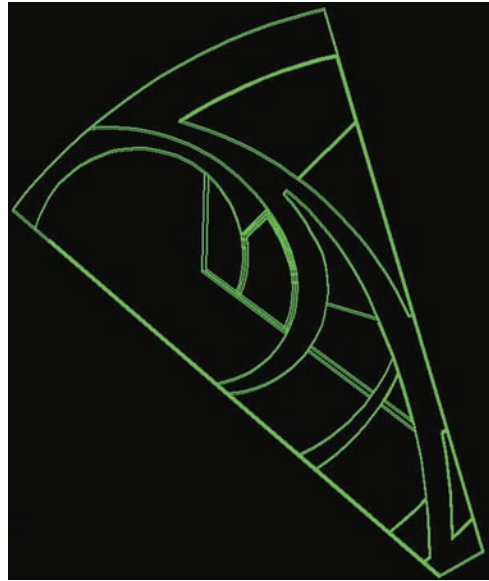

Fig. 16-5: The Flatwork Base linework is organized into an AutoCAD base file. This is the first file with lines that is imported into SketchUp.
- ▶ Linework that defines the surfaces of the site plan and creates the Flatwork Base (Fig. 16-5)
- ▶ One file contains the linework that defines the Flatwork Base (Fig. 16-5).